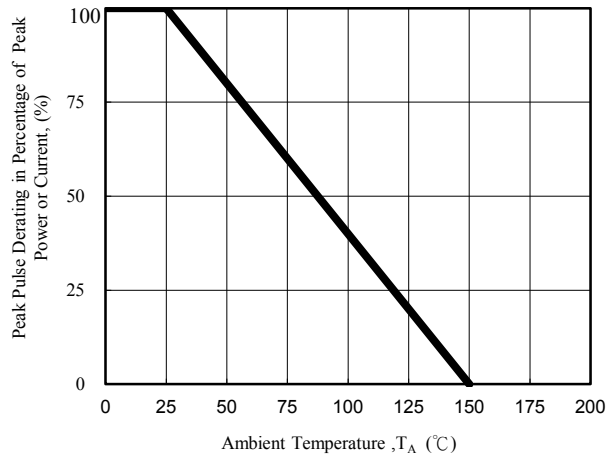
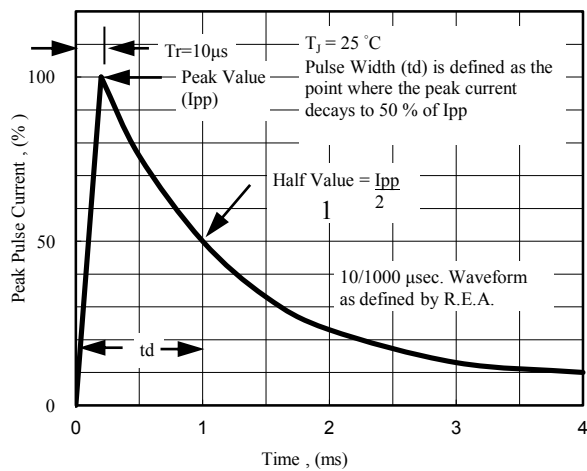

Fig. 1 - Pulse Derating Curve
Fig. 5 - Pulse Waveform
1)Non-repetitive current pulse per Fig.5 and derated above TA= 25 °C per Fig.1 ;